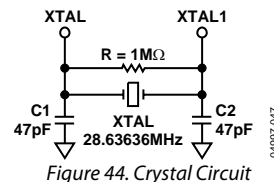

Figure 44. Crystal Circuit
Figure 44 shows an example of a reference clock circuit for the ADV7183B. Special care must be taken when using a crystal circuit to generate the reference clock for the ADV7183B. Small variations in reference clock frequency can cause autodetection issues and impair the ADV7183B performance.
- Place a 1 MΩ shunt resistor across pins XTAL and XTAL1, as is shown in Figure 44.